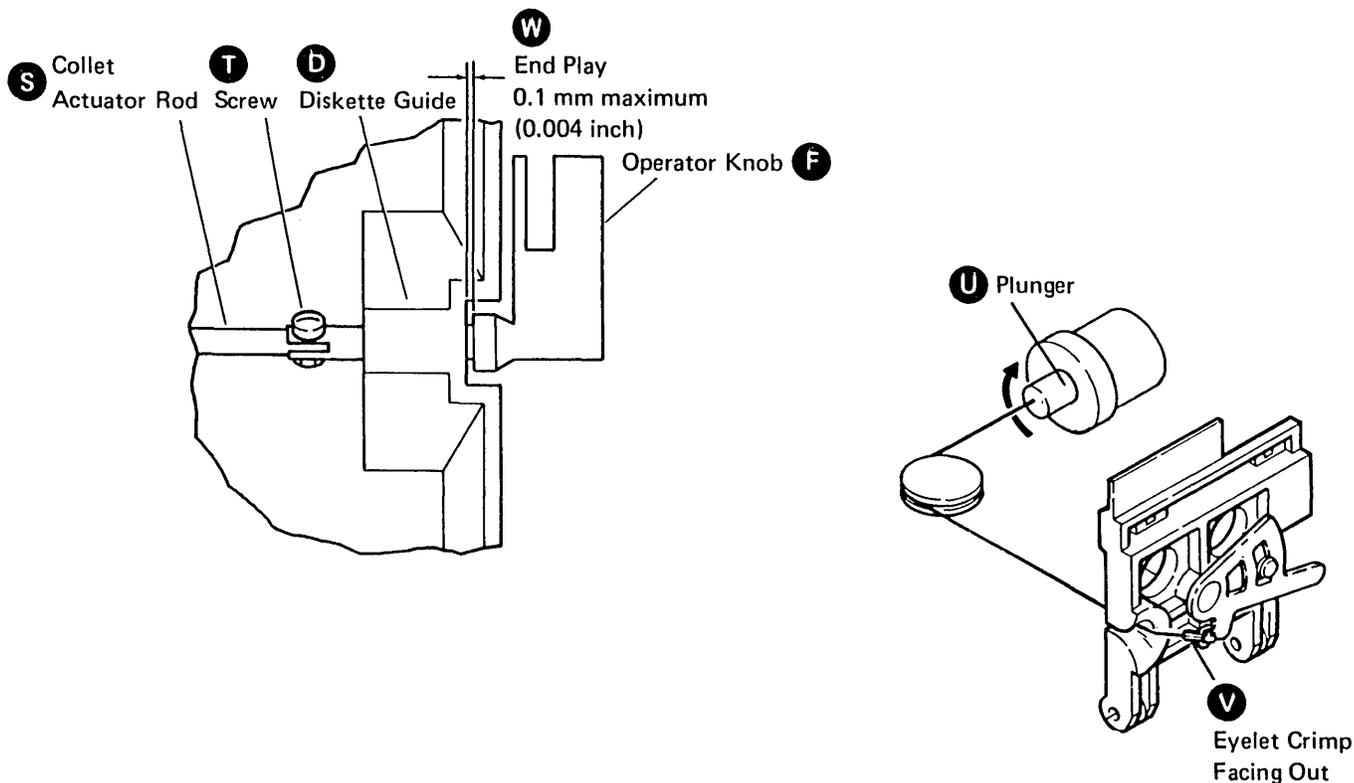

Figure E-21 (Part 2 of 2). Collet/Flat Spring Removal
5. Reinstall the screw and nut, **T**, that attach the operator knob to the collet actuator rod, **S**. Push the operator knob and the collet actuator rod, **S**, together until there is a maximum of 0.1-mm (0.004-inch) end play, **W**, between the operator knob, **F**, and the diskette guide, **D**. (See Part 2 of Figure E-21.) Tighten the screw.
8. Push the bail, **L**, inward slightly, and connect the cable to the lever, **J**. Ensure that the eyelet crimp, **V**, is facing outward, that the cable remains on the pulley, and that the cable is not twisted. (See Part 2 of Figure E-21.) Turn the solenoid plunger, **U**, if necessary.